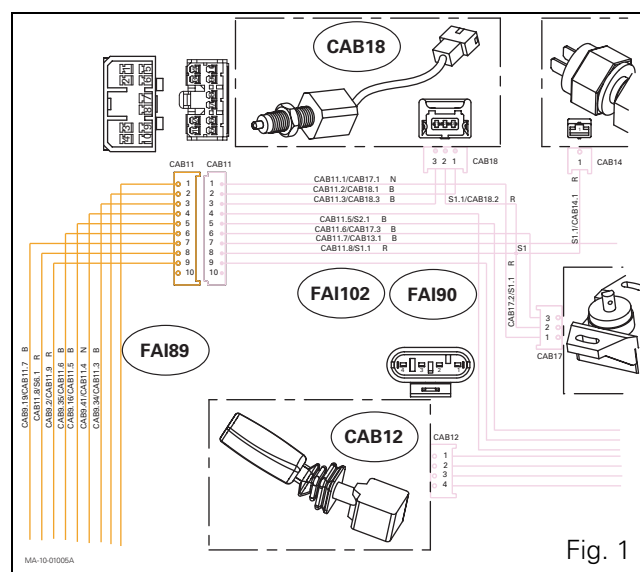

Fig. 1
CAB16: Clutch pedal progressivity sensor (Fig. 1).
- Harnesses performing the same functions have the same colour on the diagram (Fig. 1):